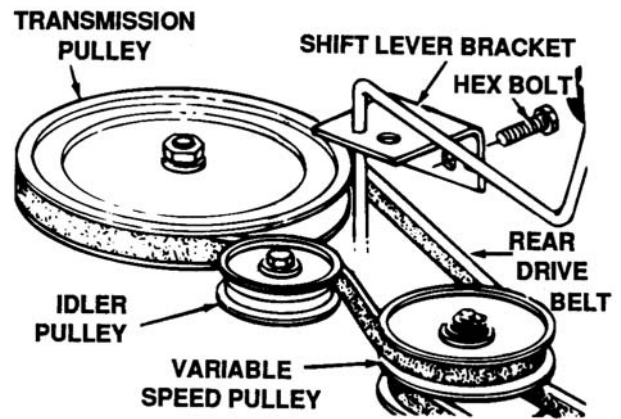

Figure 4-32. Location of Shift Lever
- c. Push the idler pulley toward the right side of the unit. Lift the belt over the idler pulley. See Figure 4-32.
right so the belt can be removed from the transmission pulley. See Figure 4-32.